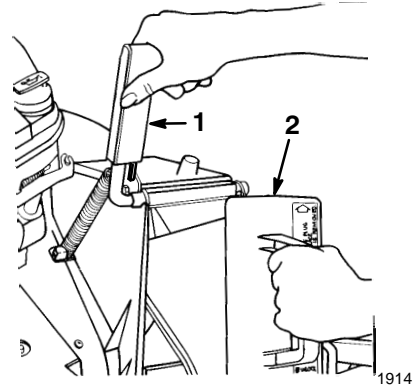

Figure 5
2. Open the discharge door by moving it rearward (Fig. 5).
4. Rotate the plug clockwise slightly while inserting it (Fig. 5).